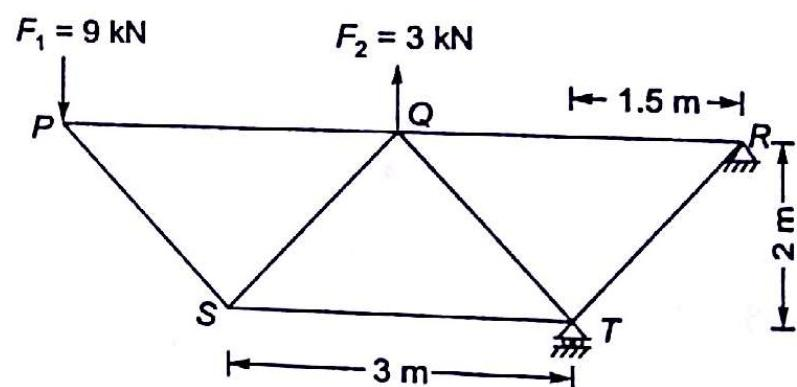

Fig. 4.57
4.28 For the truss shown in Fig. 4.57. The force F_1 and F_2 are 9 kN and 3 kN respectively. The force in (kN) in the member QS is (All dimensions in m)